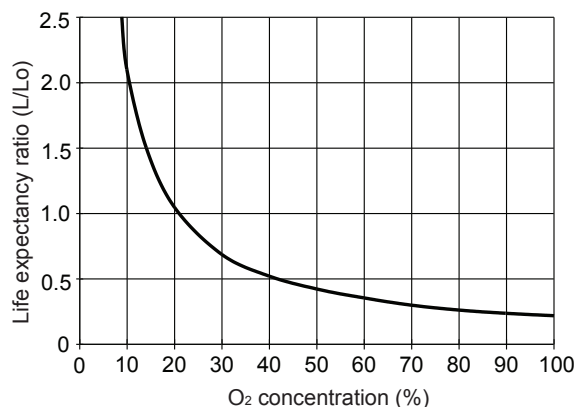

Fig. 9a - Relationship of life expectancy vs. O₂ concentration (Lo = life at 20.7% O₂)
Figure 9a shows the relationship between life expectancy and O₂ concentration for KE sensors. The Y-axis indicates the ratio of life expectancy in a given O₂ concentration (L) to life expectancy in natural air (Lo). The greater the O₂ concentration, the shorter the life expectancy. The influence of atmospheric pressure on life expectancy is estimated based on the O₂ concentration in a given atmospheric pressure.